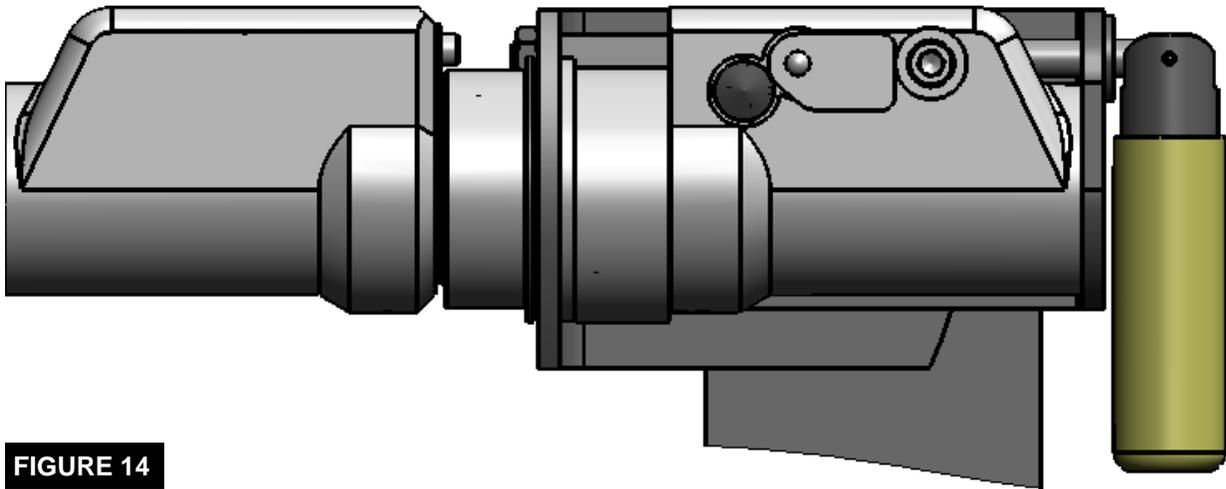

FIGURE 14
- Once the male plug is fully engaged, return the handle to the horizontal position to lock the coupler halves together. Pull the Male Half to make sure the latch is engaged. Rotate the bracket handle 5-6 turns counter clockwise so that it is no longer in the contact with the bracket and let it hang freely as shown in Figure 14. This is normal operating condition and will ensure the coupler will not disengage accidentally.